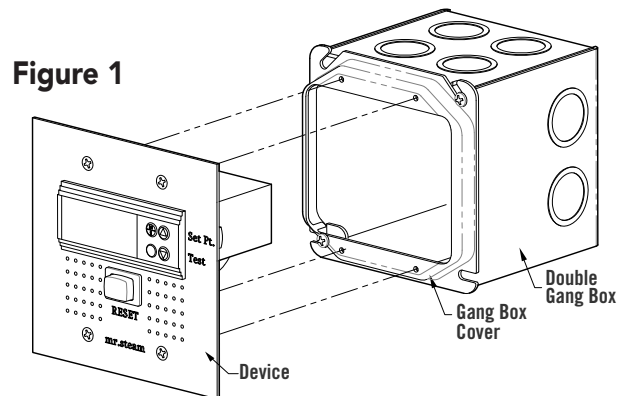

Figure 1
- Fasten Device onto gang box cover with 4 mounting screws, see Figure 1.